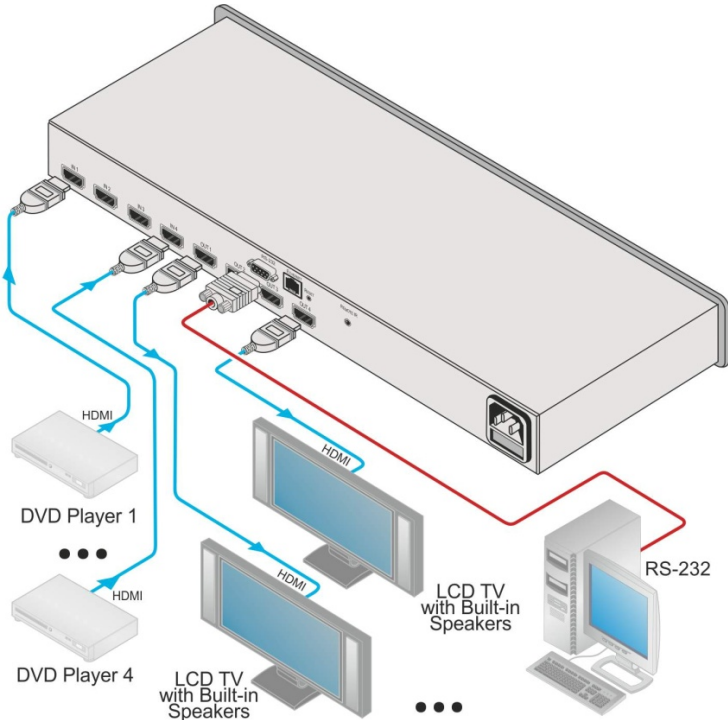

Figure 3: Connecting the VS-44HN 4x4 HDMI Matrix Switcher
To connect the VS-44HN 4x4 HDMI Matrix Switcher as illustrated in the example in Figure 3:
4. Connect the device to the mains electricity (not shown in Figure 3).